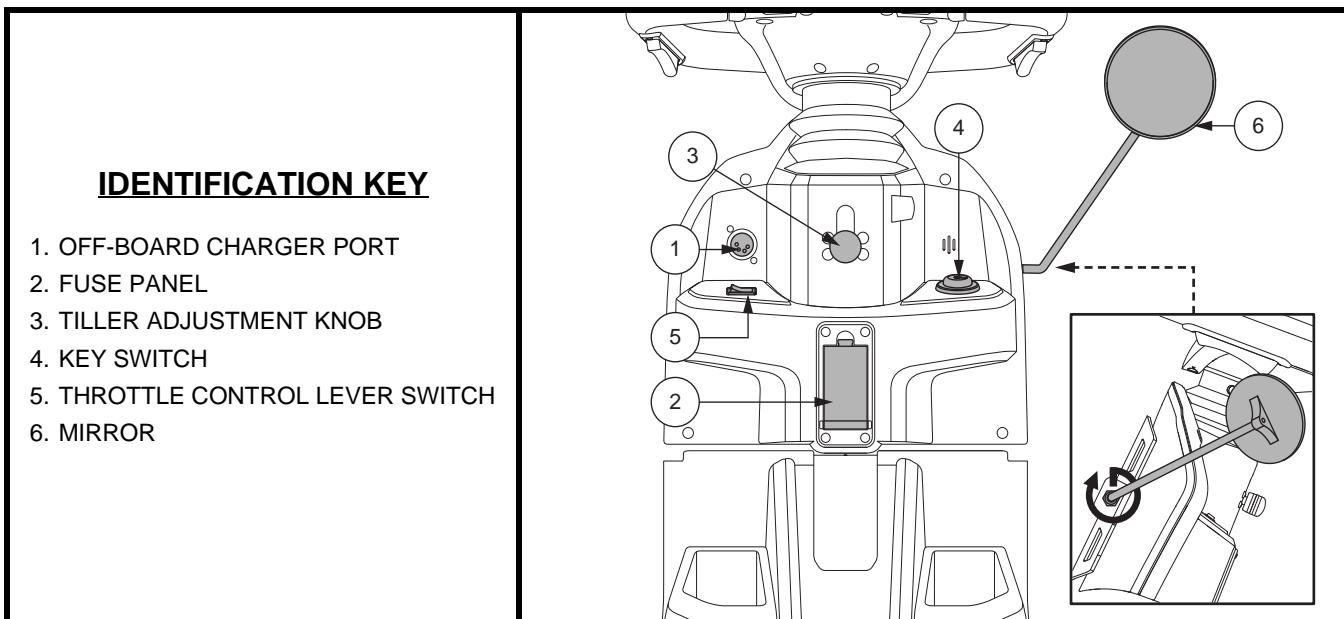

Figure 4. Lower Tiller Components
The off-board charger power lead plugs into this port during battery charging. The off-board charger port will be located on the tiller. **See figure 4.**
- Insert the key into the key switch and turn it clockwise to power up (turn on) your PMV. **See figure 4.**
This switch dictates which throttle control lever (left or right) will function. See figure 4.